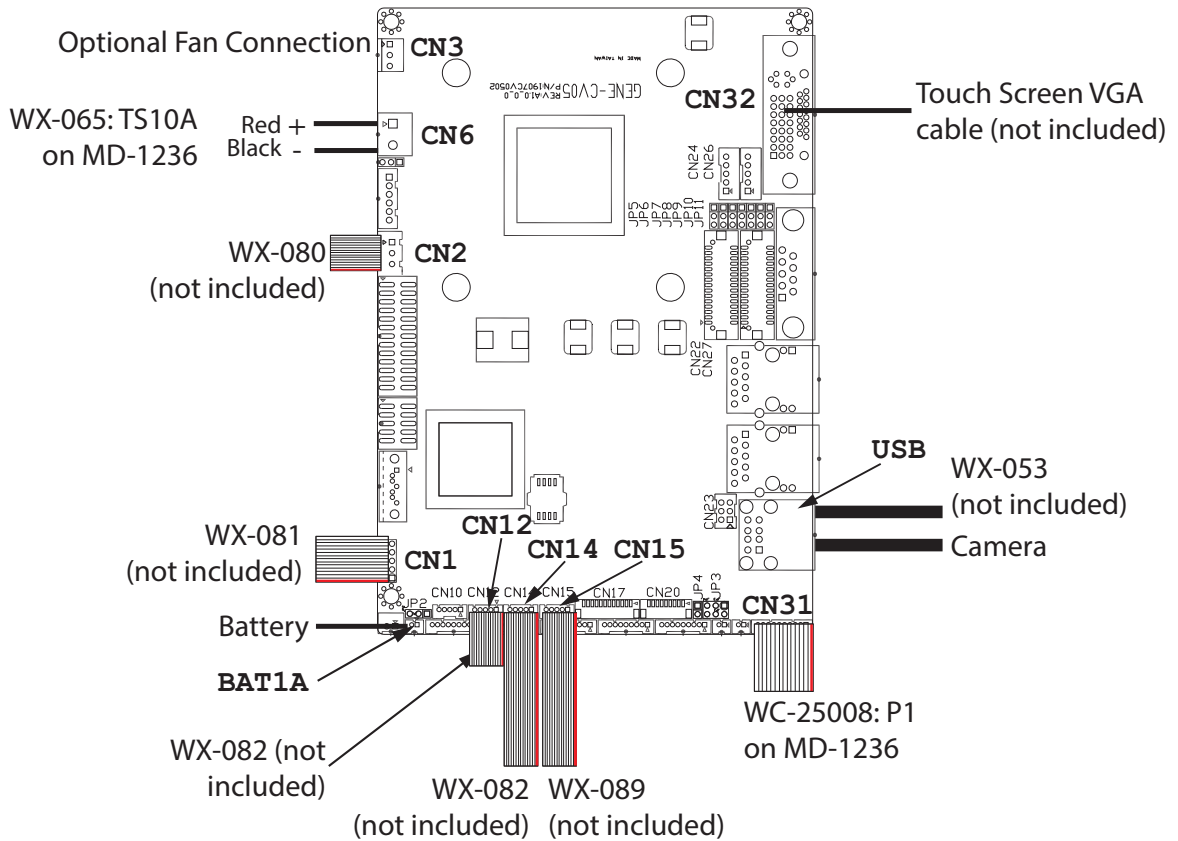

Figure 1 RB-MD-1062-22 wiring
2. Connect all the input, output, and networking harnesses to the new board. Two cables are included with this kit (WX-065 and WC-25008). See Figure 1.
3. Connect the power harness (labeled WX-065) to the new board last. See Figure 1.